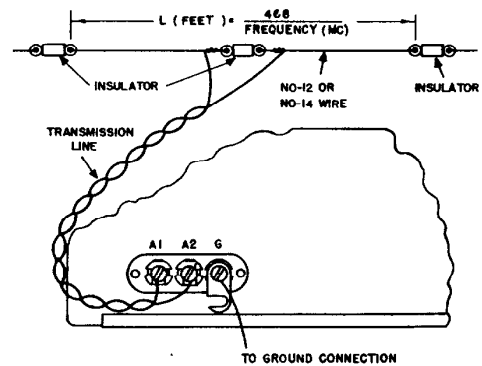

Fig. 3. Doublet Antenna Installation
2. Construct the antenna as shown in Fig. 3.